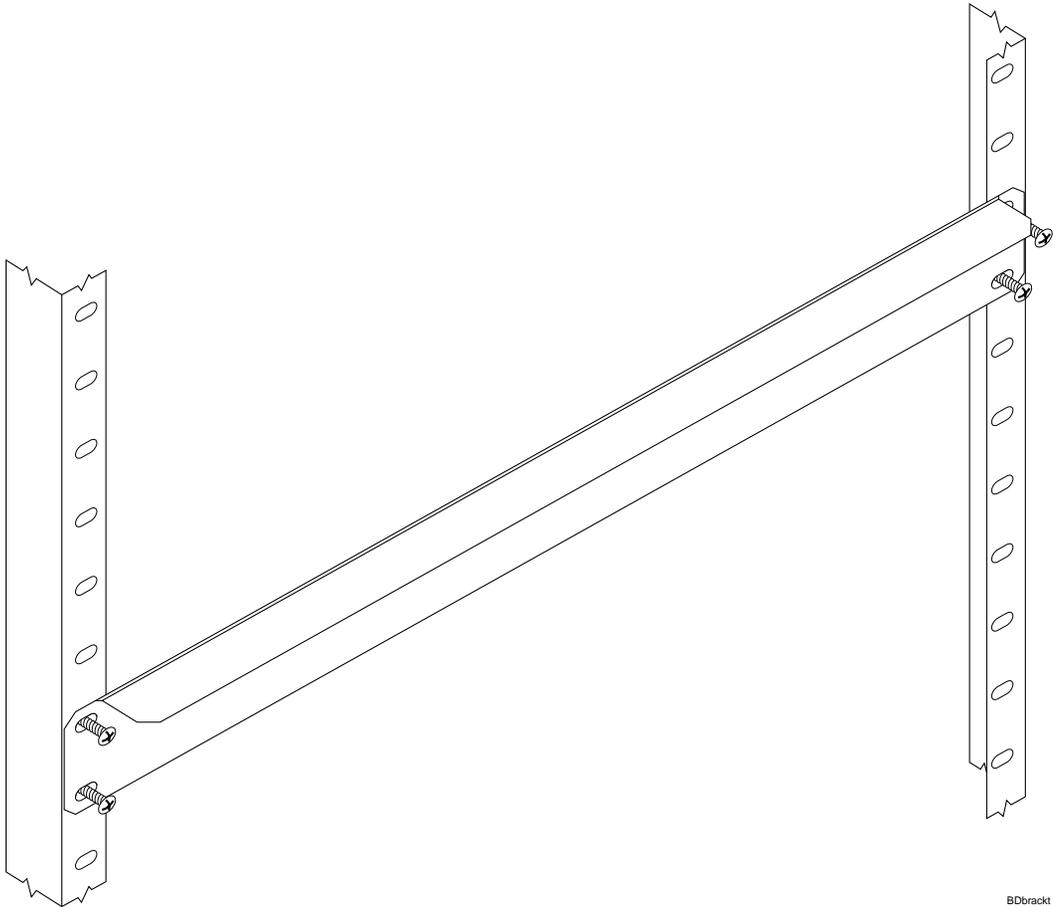

Figure 2-1: Rack-mount helper bracket
- 1 Mount the helper bracket in the rack using four appropriate rack-mounting screws, as shown in Figure 2-1.